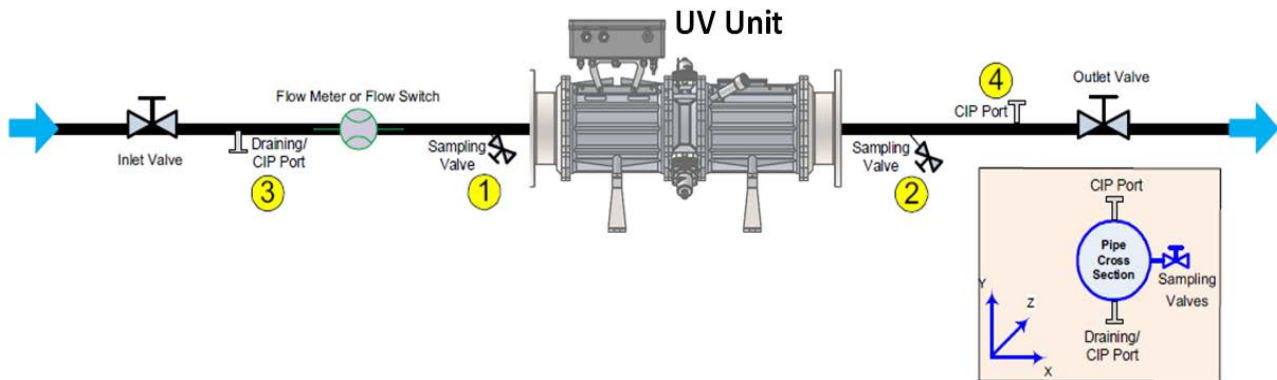

Figure 5-6: CIP Ports and Sampling Valves Orientation
Step 1. On the Inlet side, install the **Long welding ferrule** or **threaded male adapter (1)**.
- Position aseptic sampling valves (1 & 2 in Figure 5-6 on page 5-48) **horizontally** (90^0) on the pipe center, within 50cm of the Unit.
- Weld the 1 inch **ferrule (1)** clamp fitting at a horizontal orientation (3 or 9 o'clock).